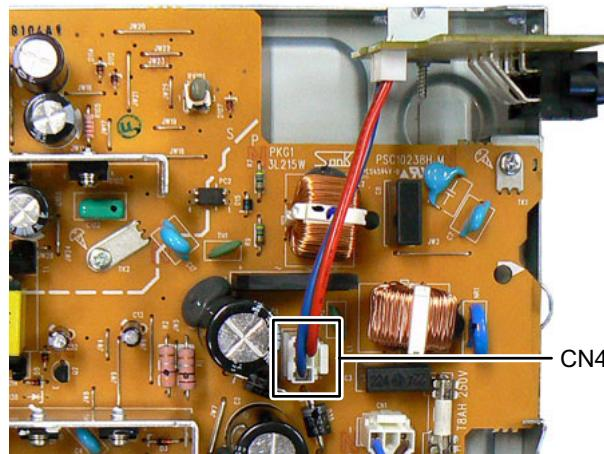

Fig.13
3.1.7 Removing the Voltage selector board (See fig.13, 14)
- (1) Disconnect the connector wire from Voltage selector board connected to connector CN4 of the Power board. (See Fig.13)